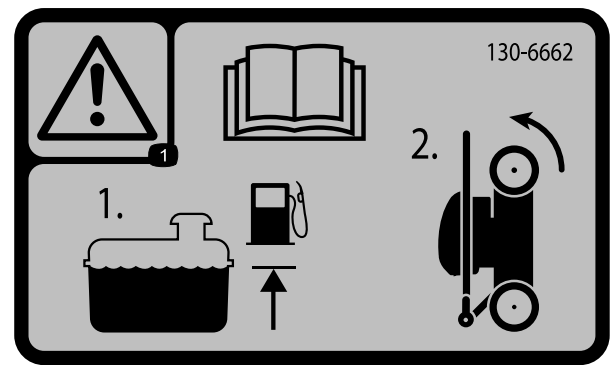

Figure 16
1. Ensure that the level of gasoline in the fuel tank is no higher than what is recommended by the engine manufacturer; refer to the engine manufacturer's decal on the engine (Figure 16).